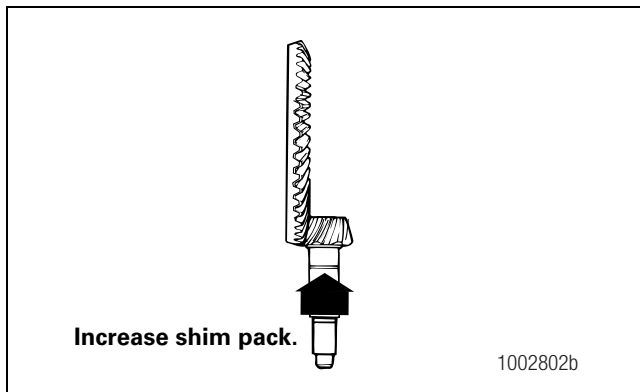

Figure 5.55
- **To correct a high-contact pattern:** Increase the thickness of the shim pack. When you increase the thickness of the shim pack, the drive pinion will move toward the ring gear. Figure 5.55.